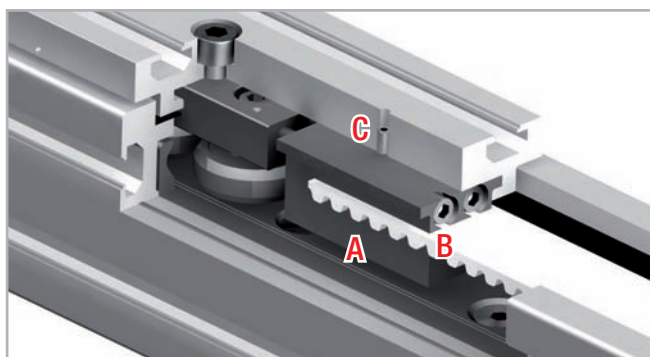

Fig. 73
- Unscrew the safety screws C (on top of the slider plate) from the belt tensioning device A (see fig. 73).